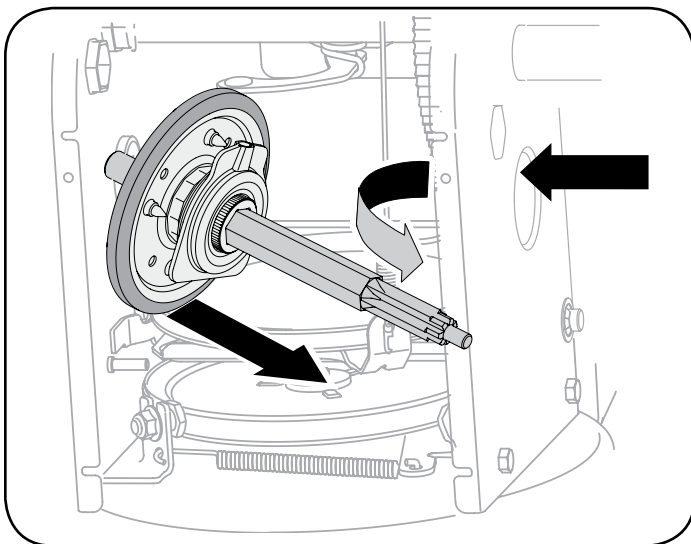

Figure 61
7. Carefully position the hex shaft downward and to the left before carefully sliding the friction wheel assembly off the shaft. See Figure 61.